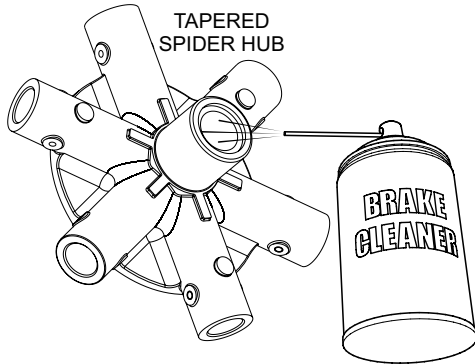

Figure 5. Cleaning Spider Hub Tapered Orifice
1. Before re-assembling, ensure that the tapered orifice (Figure 5) in the spider is clean. Spray with brake cleaner to remove any contaminants that may have accumulated on the tapered surface of the spider.